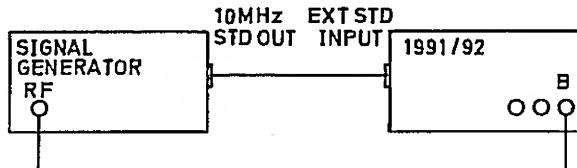

Fig 7.12 Connections for Channel B Input System Adjustment
(3) Press the RESOLUTION ↓ key five times, until 000 is displayed.
(4) Connect the test equipment as shown in Fig 7.12.
(5) Set the signal generator output to 100 MHz at a level of 3.0 mV r.m.s.
(6) Verify that the EXT STD indicator is lit, and that the channel B TRIG indicator is flashing.
(7) Adjust R193 to obtain the most stable display indication of $100.0 \underline{6} \pm 0.1 \underline{6}$, with the GATE indicator flashing.